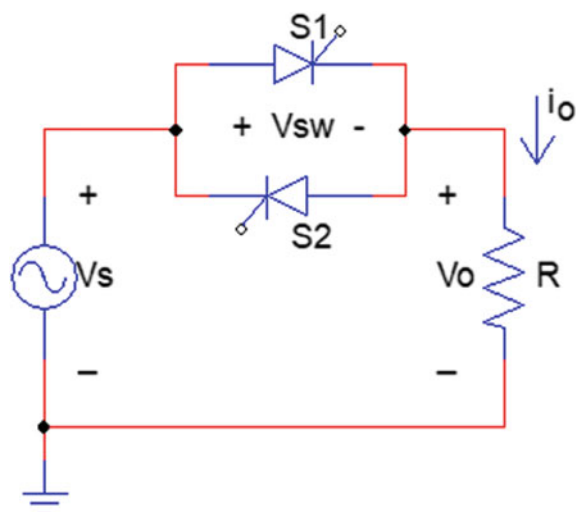

Fig. 4.129 Circuit for Exercise 1
1. A single-phase voltage controller is shown in Fig. 4.129. SCR S1 is triggered at  $2k\pi + \alpha$  and SCR S2 is triggered at  $(2k + 1)\pi + \alpha$  angles ( $k = 0, 1, 2, \dots$ ). The load voltage/current waveforms are shown in Fig. 4.130. Use Proteus to simulate the circuit for  $\alpha = 30^\circ, 60^\circ$  and  $90^\circ$ .